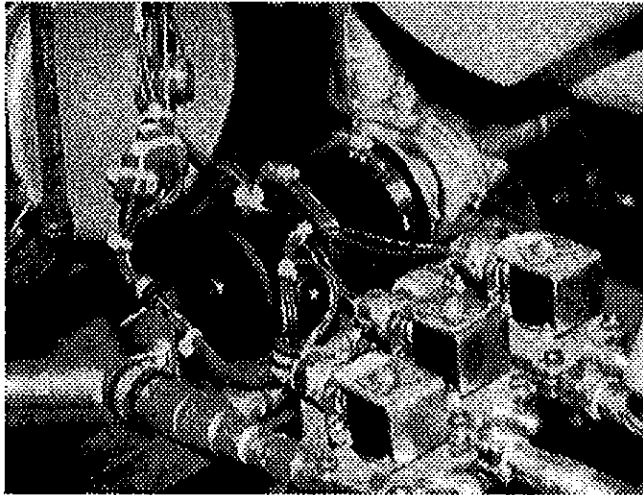

FIG. 8 - Three (3) paralleled water solenoid valves
In the heating mode, the stages will be provided by three (3) paralleled water solenoid valves (normally-closed) and a water recirculating pump (see fig. 8). Staging will be defined as follows: